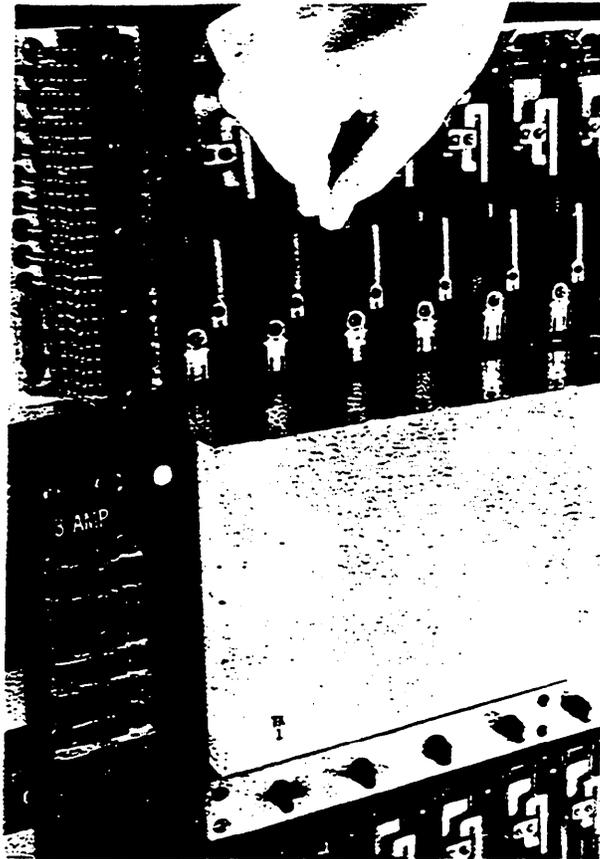

Figure 14. View of a Portion of an Out Trunk Secondary Shelf to Show the Location of the shelf Alarm Lamps.
3.25 Manually step and hold a rotary switch on the 25th contact. (See Fig. 14.)